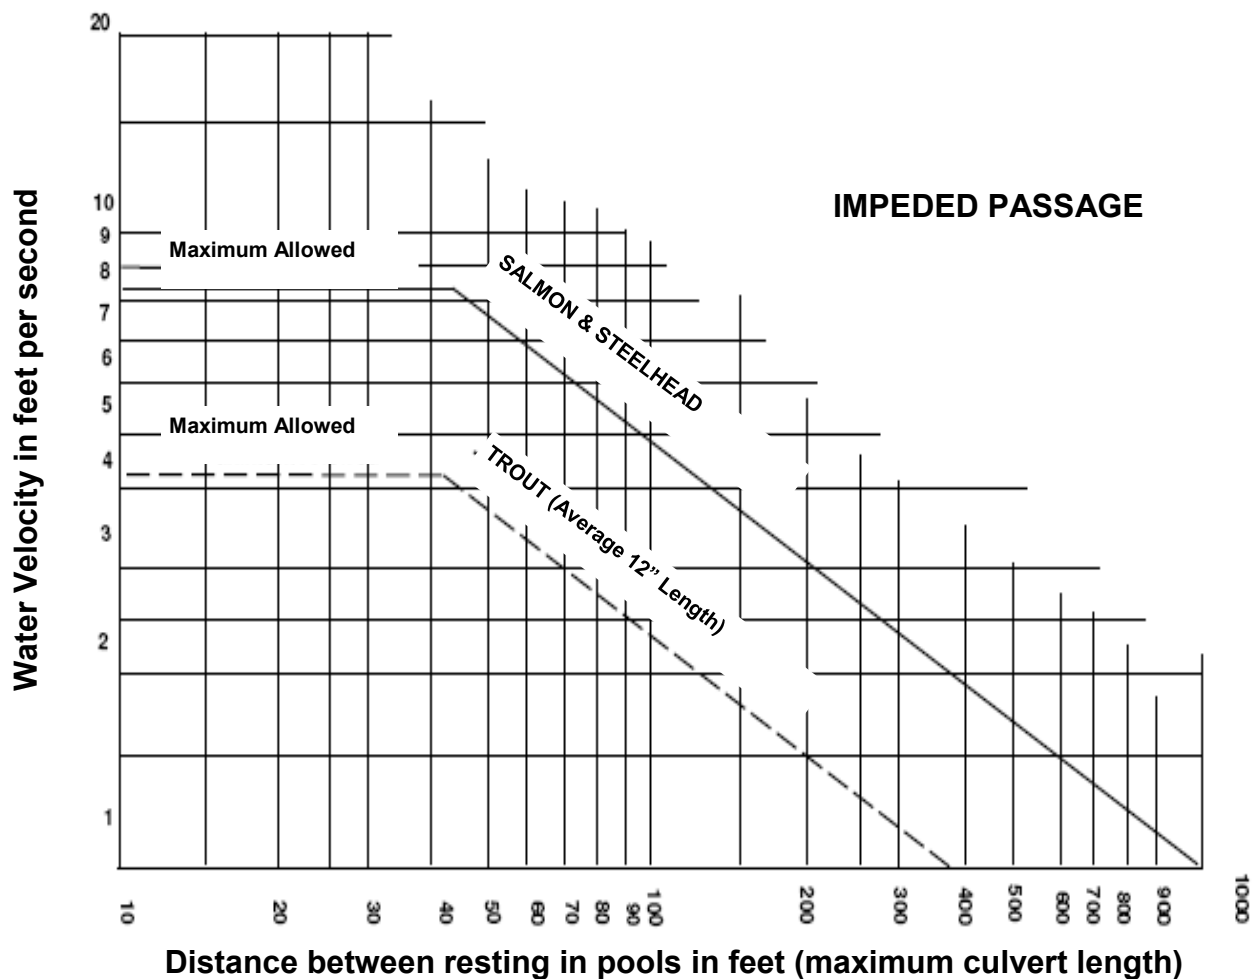

FIGURE 1. Swimming capability of migrating salmon and trout (Alaskan Curve)
2. [Depending on the type of fish present, salmon/steelhead, resident fishes, or both] Water velocities shall not exceed those shown in the Alaskan Curve for more than a 48 hour period (see Figure 1).